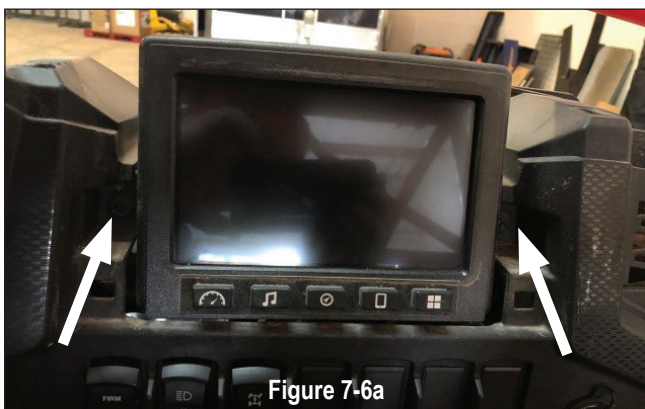

Figure 7-6a
Remove (4) T40 screws located above the center switches as in Figure 7.6a. If you have a Ride Command, (2) will be on each side of the screen and (2) behind the screen as in Figure 7.6b.